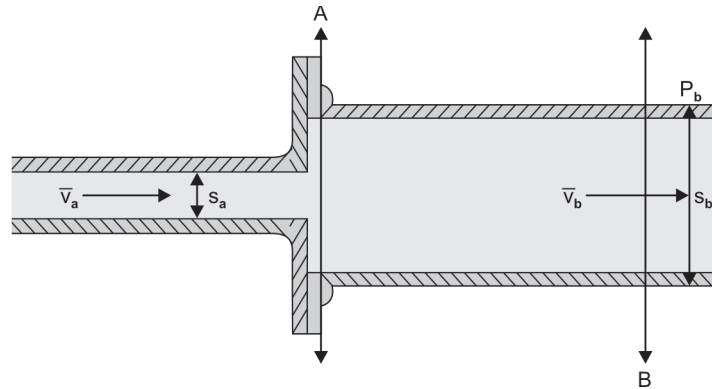

Fig. 1.13: Energy losses due to enlargement
- a. **Enlargement Losses**: Figure 1.13, the cross-section of the pipe enlarges gradually; the fluid adapts itself to the changed section without any disturbance